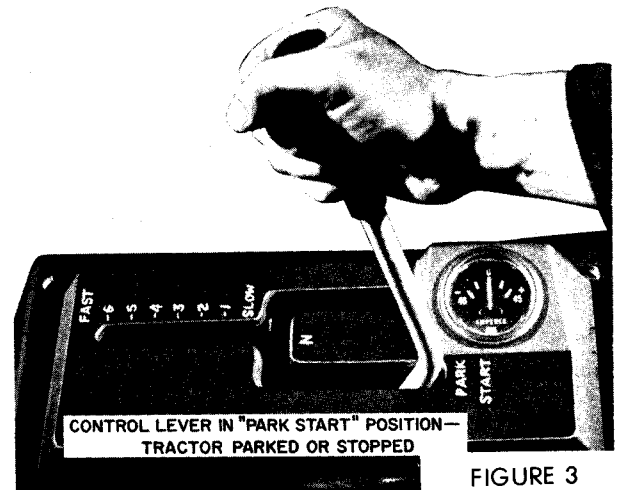

FIGURE 3
- Place the hydrostatic control lever in the "Park-Start" position, shown in Figure 3.
When the hydrostatic control lever is placed in the "Park-Start" position as shown in Figure 3, a pin engages the teeth on the reduction gear inside the rear axle housing. This mechanically locks the rear wheels and prevents them from turning. When the control lever is moved into the neutral (N) position, Figure 4, the pin is disengaged; however, the hydrostatic transmission will not allow the rear wheels to turn provided there is sufficient oil in the transmission and the free-wheeling valve is pulled out all the way out.